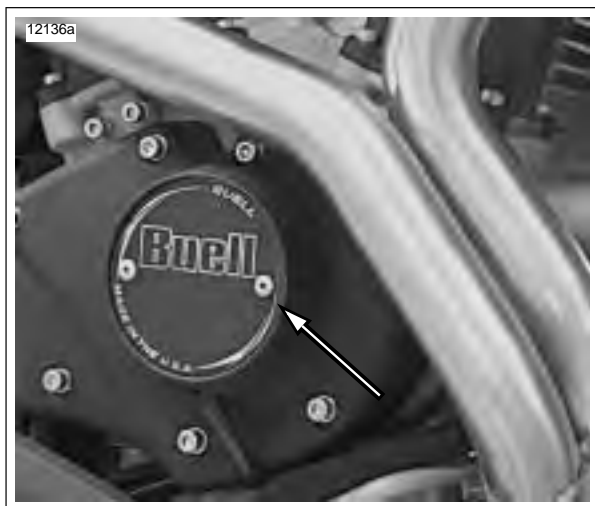

Figure 1-51. Timer Cover
1. See Figure 1-51. Remove timing plate cover.